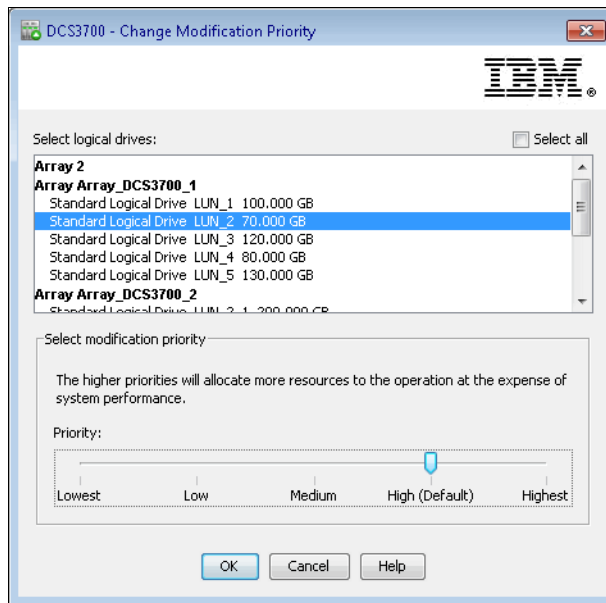

Figure 8-43 Modification priority for a logical drive
2. Make sure that the correct logical drive is selected, and set the new Modification Priority value, as shown in Figure 8-43.
You can select more drives in Figure 8-43 on page 263 by pressing the Ctrl or Shift key during selection or by clicking **Select All**, where *all* of the selected drives have the same modification priority after the change.